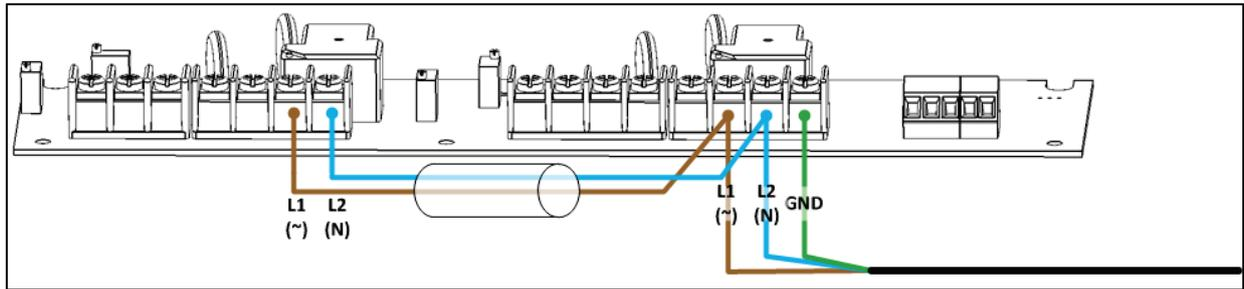

Figure 47: Variable speed card powering
5. Wire the Variable Speed Card to the power source (Figure 47).